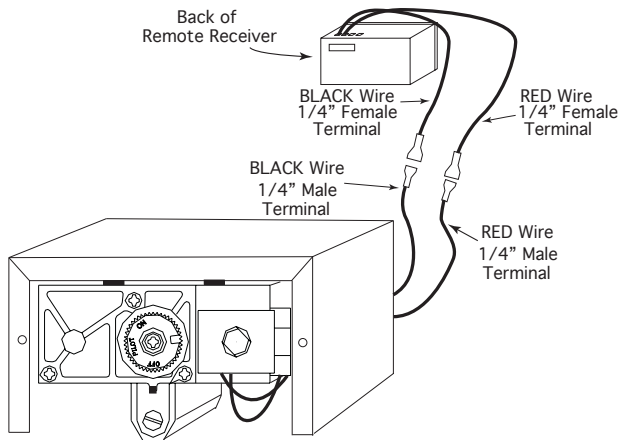
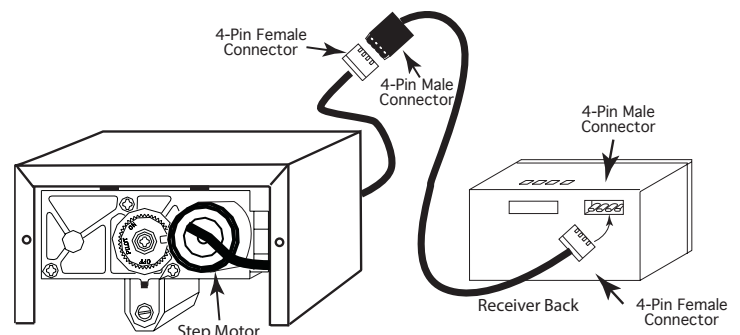

Fig. 10 Solenoid or motor drive connection to receiver.
Fig. 12 Step motor connection using 4-PIN connector.
3. Connect the red and black wires from the ON/OFF latching solenoid or motor drive on the valve to the red and black wires from the remote receiver for AF-LMF-R and AF-LMF-RV (Fig. 10). If installing the AF-LMF-RVS connect the 4-pin connector from the step motor to the remote receiver (Fig 12).